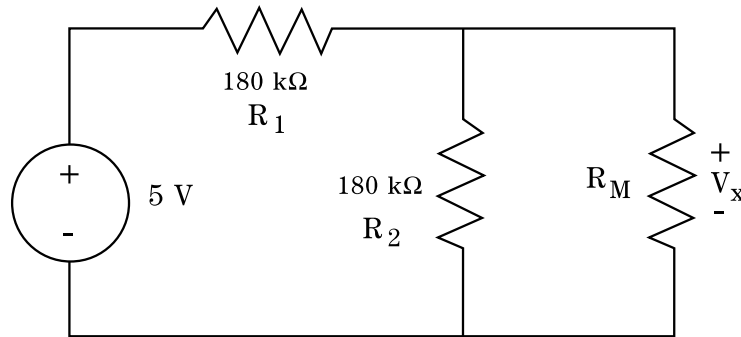

Figure 4
- b. Figure 4 represents an equivalent circuit that occurs when an attempt is made to measure V_x with an AMM. In Fig. 4, R_M is the input resistance of the AMM. This equivalent circuit will be used to develop a method of characterizing the input resistance of the analog meter on each of the available ranges.